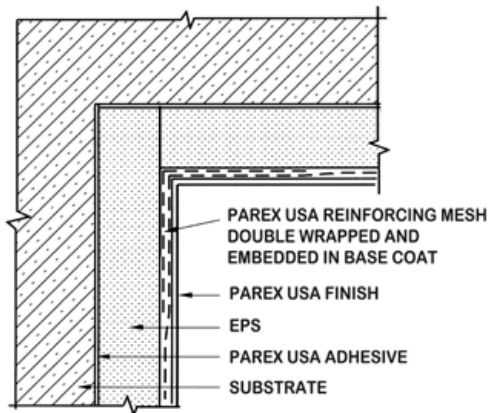

Fig 6.7
(1) Apply a primary layer of basecoat wide enough to accommodate Parex USA 356 Short Detail Mesh. Embed the mesh into the fresh basecoat, then apply the 355 Standard Mesh around the corner so there is a double layer of mesh (Fig 6.7).